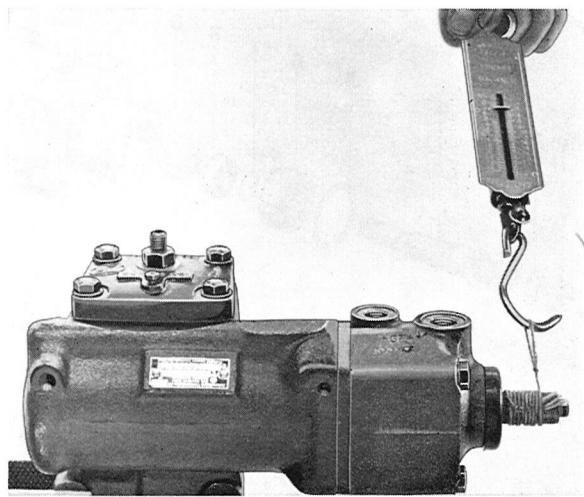

Fig. 6-102. Checking torque
15. Turn the steering spindle to the end position. Check for sufficient torque about 1/2 turn from the end position (Fig. 6-102). Adjust the steering spindle to the center position. Screw in the adjuster screw (11) so that a noticeable pressure point is obtained. Measure the torque and adjust so that the balance gives a reading of 45—60 N (10—13 lbs) greater than at the end position, but max. 185 N (40 lbs). Torque the nut (17) to 25 Nm (18 lbft) while holding the adjuster screw in position.